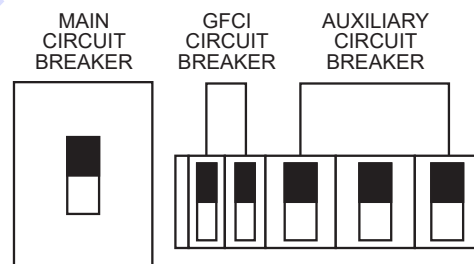

Figure 50. Main, Aux. and GFCI Circuit Breakers (ON)
10. Place the **main, GFCI, and aux.** circuit breakers in the **ON** position (Figure 50).